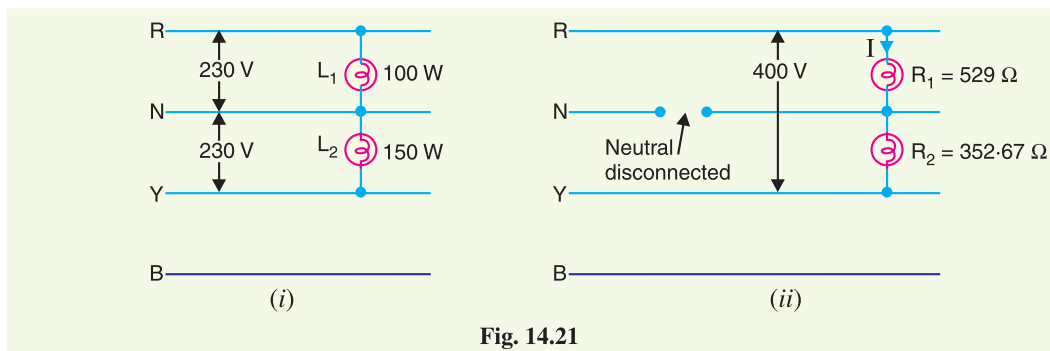

Fig. 14.21
**Solution.** Fig. 14.21 (i) shows the lamp connections. The lamp  $L_1$  of 100 watts is connected between phase R and neutral whereas lamp  $L_2$  of 150 watts is connected between phase Y and the neutral.
When the neutral wire is disconnected as shown in Fig. 14.21 (ii), the two lamps are connected in series and the p.d. across the combination becomes equal to the line voltage  $E_L (= 400 \text{ V})$ .